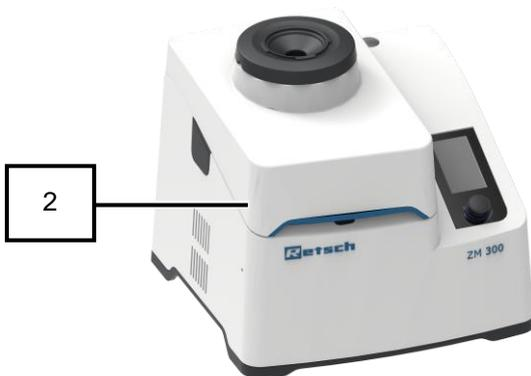

Fig. 15: Device with closed device hood
- ➔ The device hood (2) is automatically locked by the locking pin (8) and the interior (10) is closed (Fig. 15).